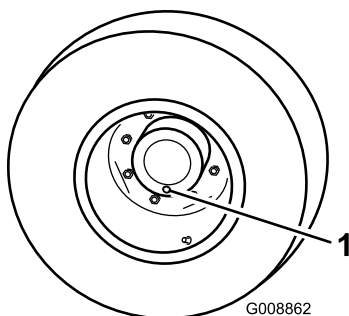

Figure 92
1. With the machine on a level surface, position a wheel so a check plug is at the lowest (6 o'clock) position (Figure 92).